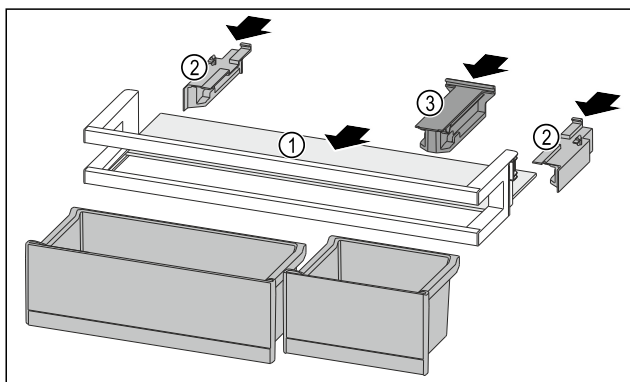

Fig. 198
- ▶ Push the shelf Fig. 198 (1) into the side recesses.
- ▶ Insert the side parts Fig. 198 (2).
- ▶ Insert the holding part Fig. 198 (3).